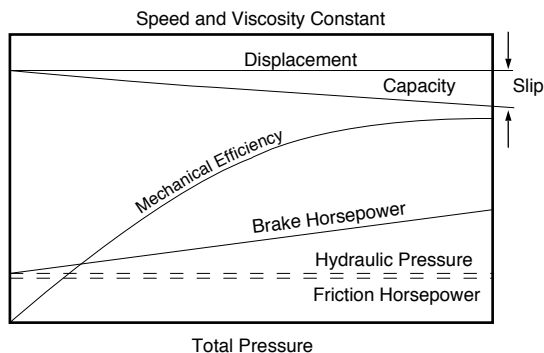

FIGURE 64. Relationships of Performance Terms
- Figure 64 shows the graphical relationships of the terms that are being used in denoting pump performance.
- As viscosity increases, the capacity curve (see Figure 64) approaches the theoretical displacement until, at a viscosity based on design, there is no measurable slip, and capacity equals displacement. In an external gear pump, minimal slip occurs at a liquid viscosity of approximately 5,000 Saybolt Second Units (SSU).
- Figure 64 shows that brake horsepower is also a straight-line function. At zero pressure, there is still a definite horsepower requirement due to friction in the pump. This friction horsepower does not vary appreciably with increased pressure and is a result of internal friction of bearings, stuffing box (or seal), and meshing of rotors. The other component of brake horsepower is usually referred to as hydraulic (or water) horsepower and is directly proportional to the amount of work the pump does. (i.e., capacity, mechanical friction, and viscous horsepower make up the pump-required input power.)